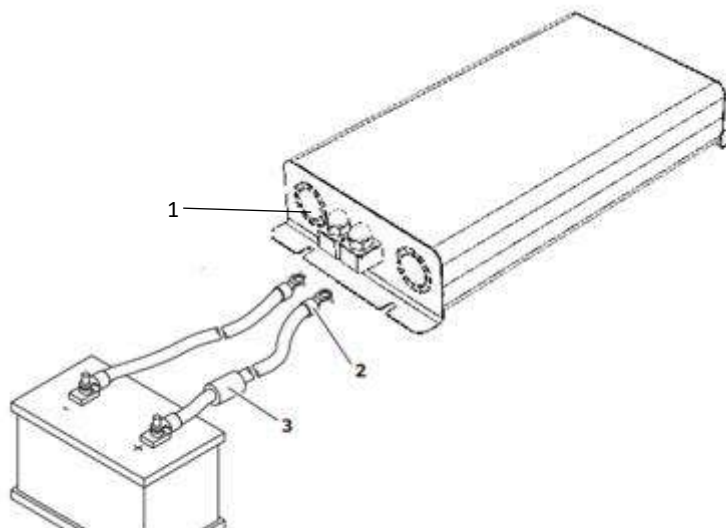

Fig 3.
- Loosen the screw (fig. 3) from the red positive terminal (fig. 3).
- Push the cable lug (fig. 3) of the positive cable into the red positive terminal and fasten it with the bolt.
- Connect the negative cable to the black negative terminal (fig. 3).